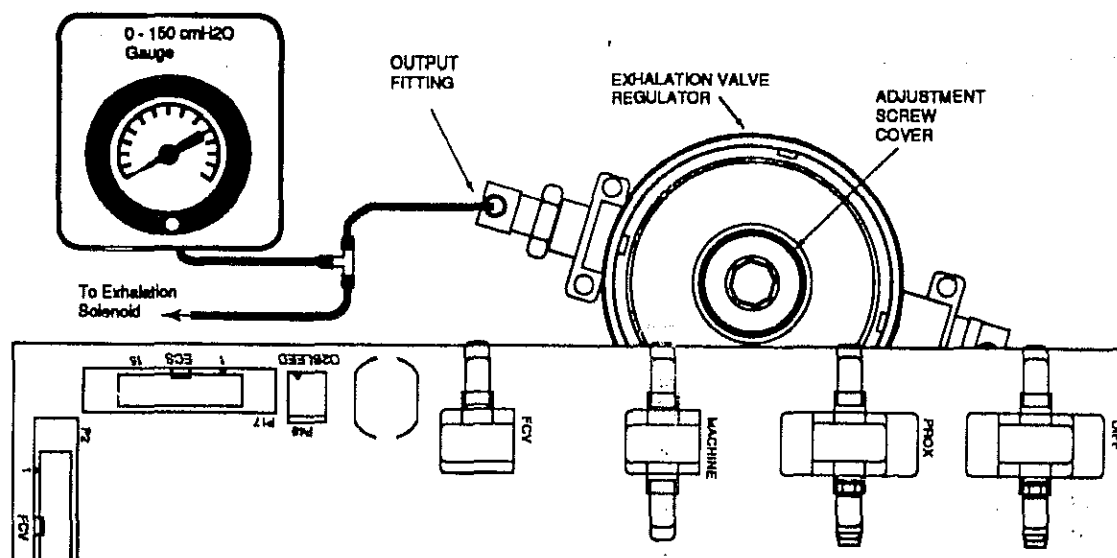

Figure 5-11 Exhalation Valve Regulator Calibration
2. Tee in the pressure gauge to the Exhalation Valve Regulator output fitting as shown in Figure 5-11.